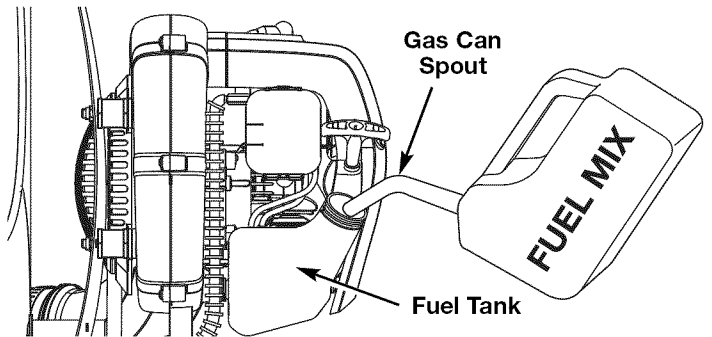

Fig. 10
2. Place the gas container's spout into the fill hole on the fuel tank (Fig. 10) and fill the tank.